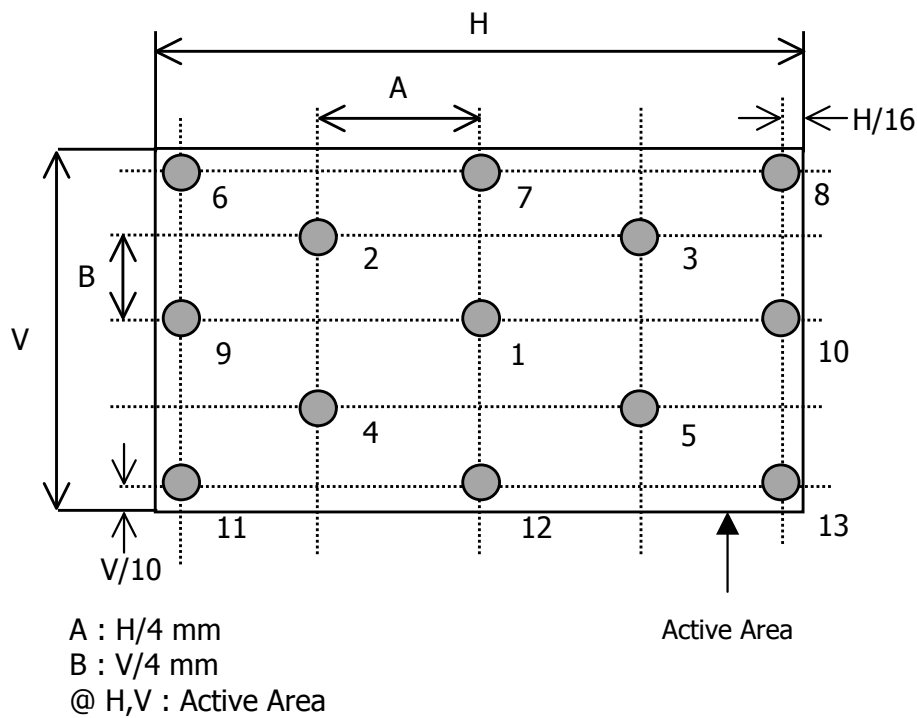

FIG. 2 Measure Point for Luminance
2. Surface luminance is luminance value at 5 points average across the LCD surface 50cm from the surface with all pixels displaying white. For more information see FIG 2.